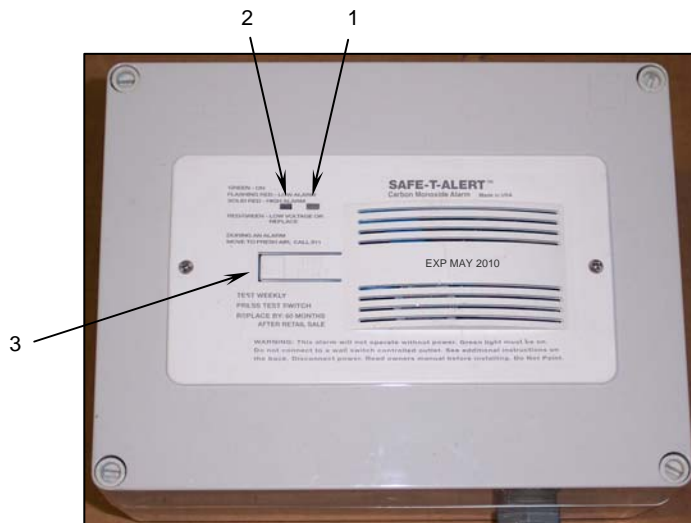

Figure 29. CO Monitor Alarms.
- Flashing red light (**Figure 29, Item 1**) and four audible beeps
- Cycle continues until TEST/RESET button (**Figure 29, Item 2**) is pressed
- Indicator light alternates flashing green and red lights (**Figure 29, Item 3**) and one audible beep every 30 seconds